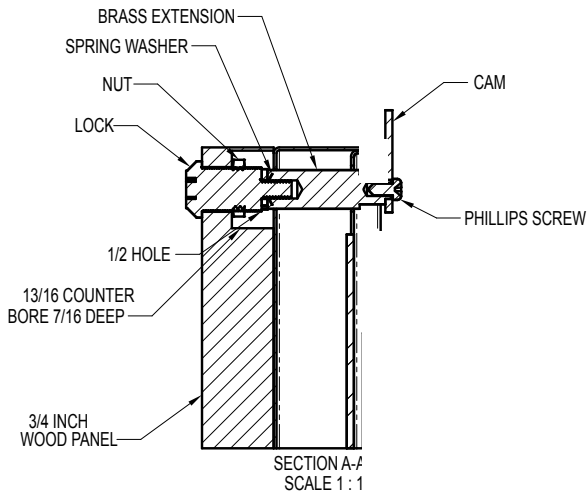

Figure 23
Two (2) lock extensions are provided with the lock. Use the longer extension for $\frac{3}{4}$ " thick overlay panels and the shorter one for $\frac{5}{8}$ " thick overlay panels. Assemble the lock extension, cam stop washer, spring washer, and set screw to the lock as shown in Figure 23 and 24.